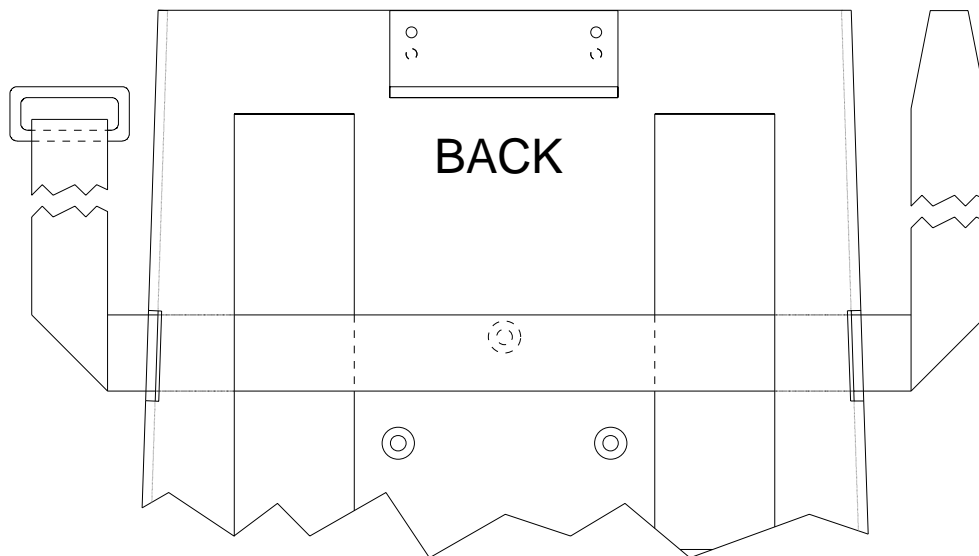

Figure 1, Monitor Base Plate for 15" Sampo Monitor.
NOTE: If you are MOUNTING a 15" Sampo monitor, the Back Mounting bracket must be turned around as shown in Figure 1.
51. Using the **Select "+"** or **"-"** buttons on the front of the monitor, highlight **Horizontal Sizing** symbol, as shown in figure 1 below.
53. Using the **Select "+"** or **"-"** buttons on the front of the monitor, highlight **Vertical Position** symbol, as shown in figure 1 below.
55. Using the **Select "+"** or **"-"** buttons on the front of the monitor, highlight **Vertical Sizing** symbol, as shown in figure 1 below.